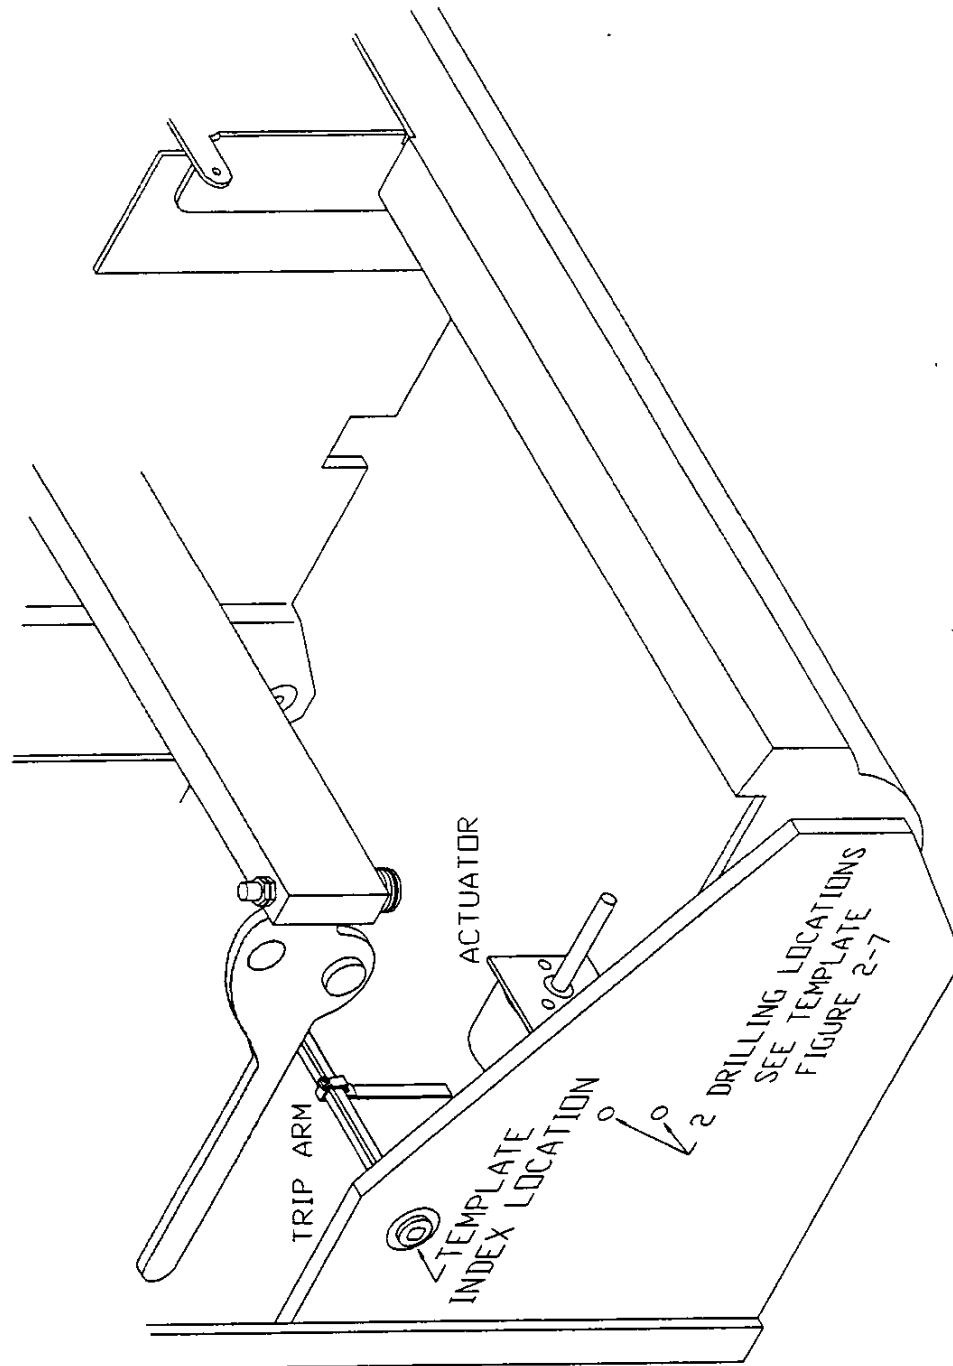

Figure 2-8
1. Refer to figure 2-8 for the drilling locations to the side frame of the breaker. Remove the template in the manual (page 17) and index it to the left side frame using the trip shaft as the main index location. The holes may be drilled and tapped to accept 10-32 hardware or cleared for use with 10-32 hardware and nylock nuts.